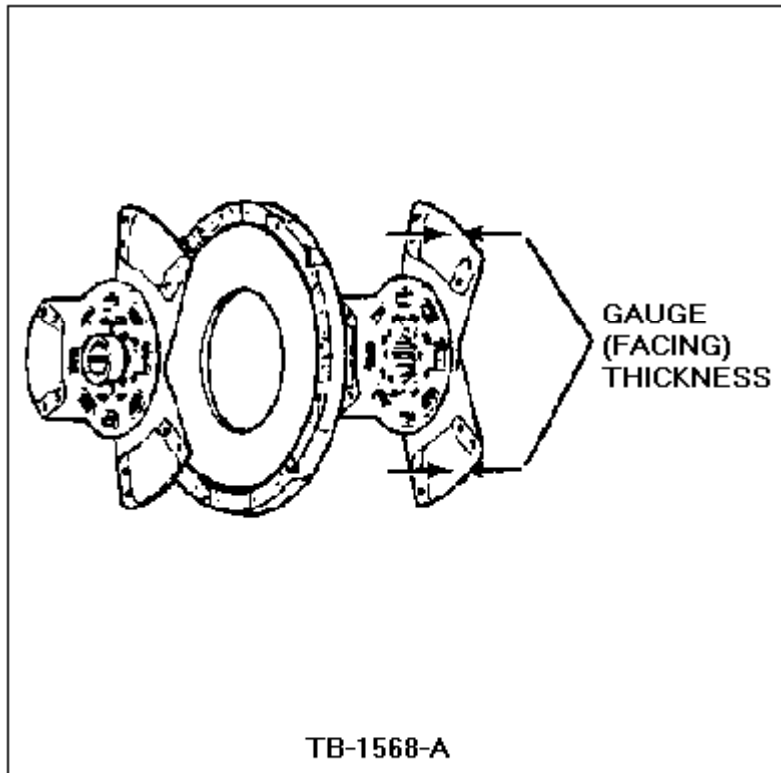

Figure 9 - Article 90-5-17
- a. On each disc, measure the gauge (facing) thickness in three or four areas around the disc, Figure 9.